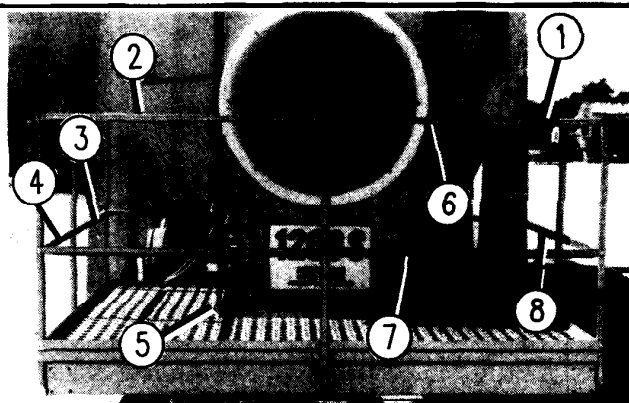

FIG. 10 - TOE BOARD ANGLES AND GUARD RAIL PARTS
- F. Connect the right-hand inner toe board (No. 5, Fig. 10, D61-0047) as shown in Fig. 10.
- A. Connect the upper side guard rail (No. 1, Fig. 10, D61-0029) onto each side as shown in Fig. 10.
- B. Connect the upper front guard rail (No. 6, Fig. 10, D61-0030) as shown.
- C. Connect two rear guard rails (No. 2, Fig. 10, D61-0031) onto each rear side of platform as shown.
- D. Connect two lower front guard rails (No. 7, Fig. 10, D61-0032) as shown.
- E. Connect the lower front side guard rail (No. 4, Fig. 10, D61-0033) and the lower rear side guard rail (No. 3, Fig. 10, D61-0034) onto each side of platform.
Connect the access door clip (No. 8 Fig 10, D61-0144) on the left side of the platform as shown.